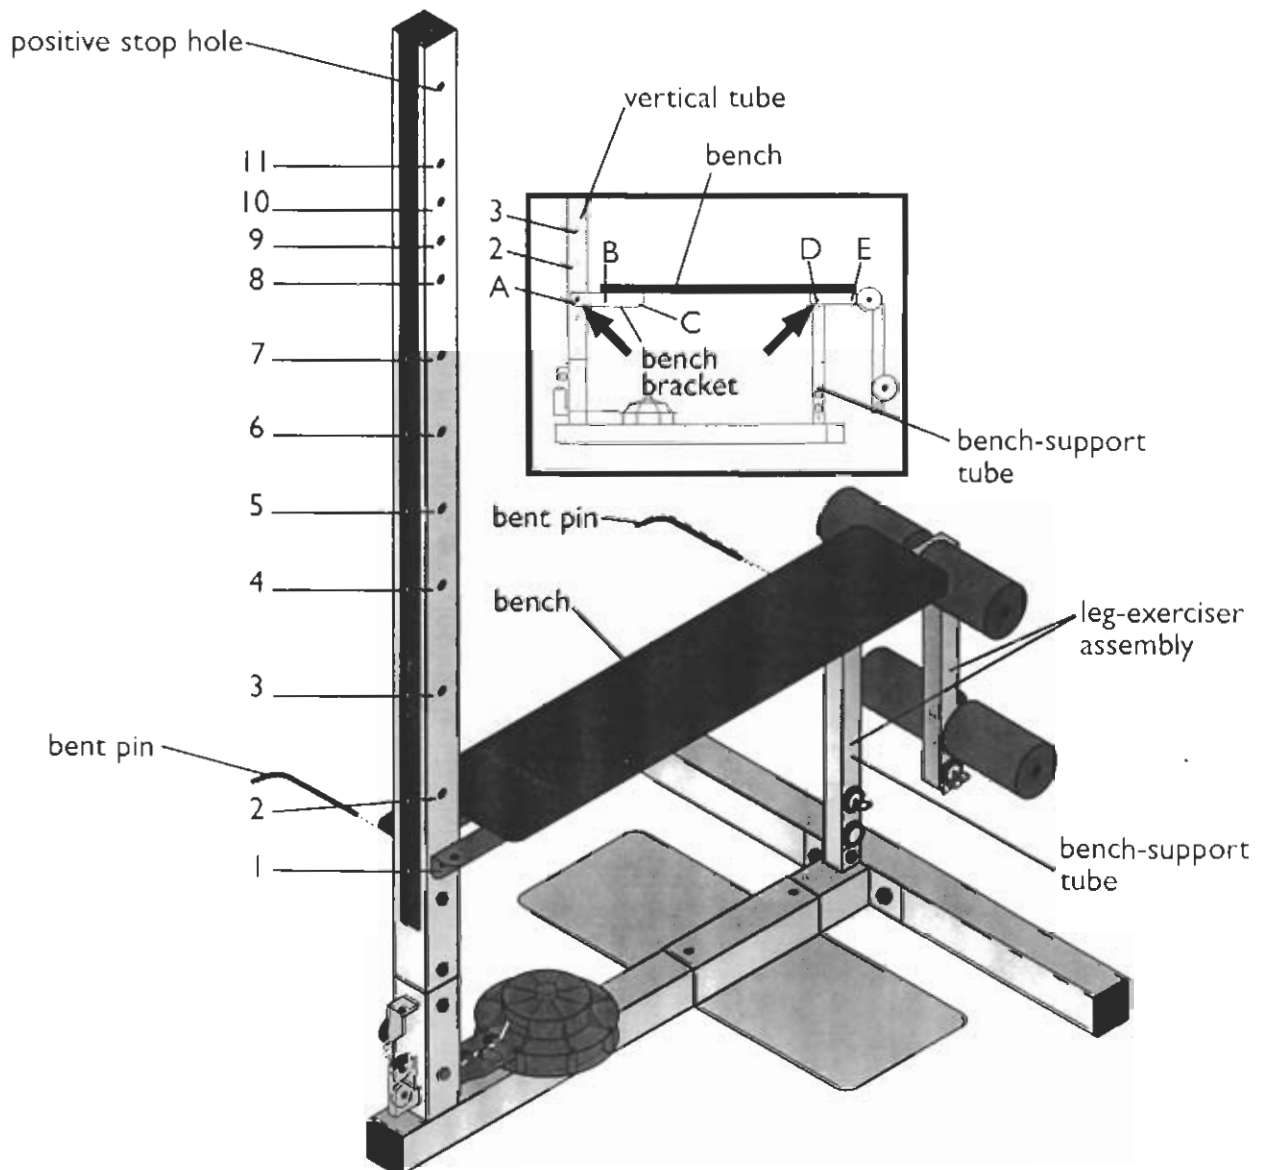

Figure 9
1. Align the first hole on the bench bracket (hole A) with the bottom hole (hole D) on the vertical tube (Figure 9).
3. Align hole D near the foot of the bench with the hole in the top of the bench-support tube (Figure 9).